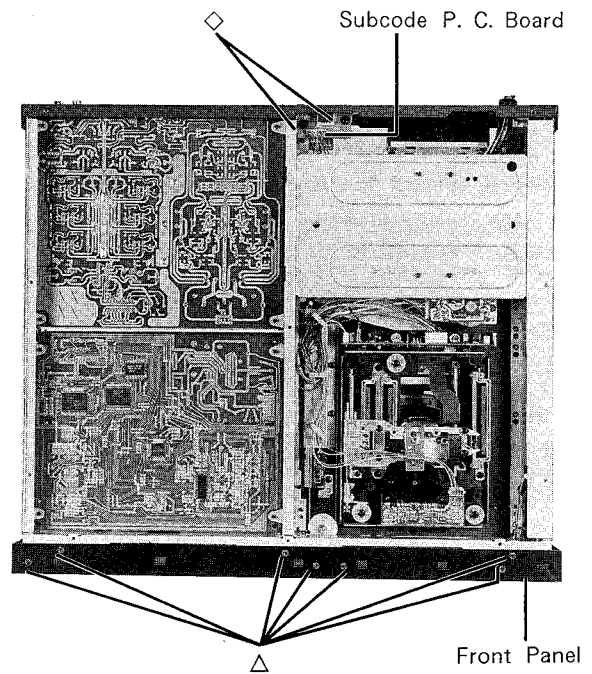

Figure 8
- (1) Remove two screws marked "◇" as shown in Figure 8.
- (2) Disconnect the connector from Subcode P.C. Board.